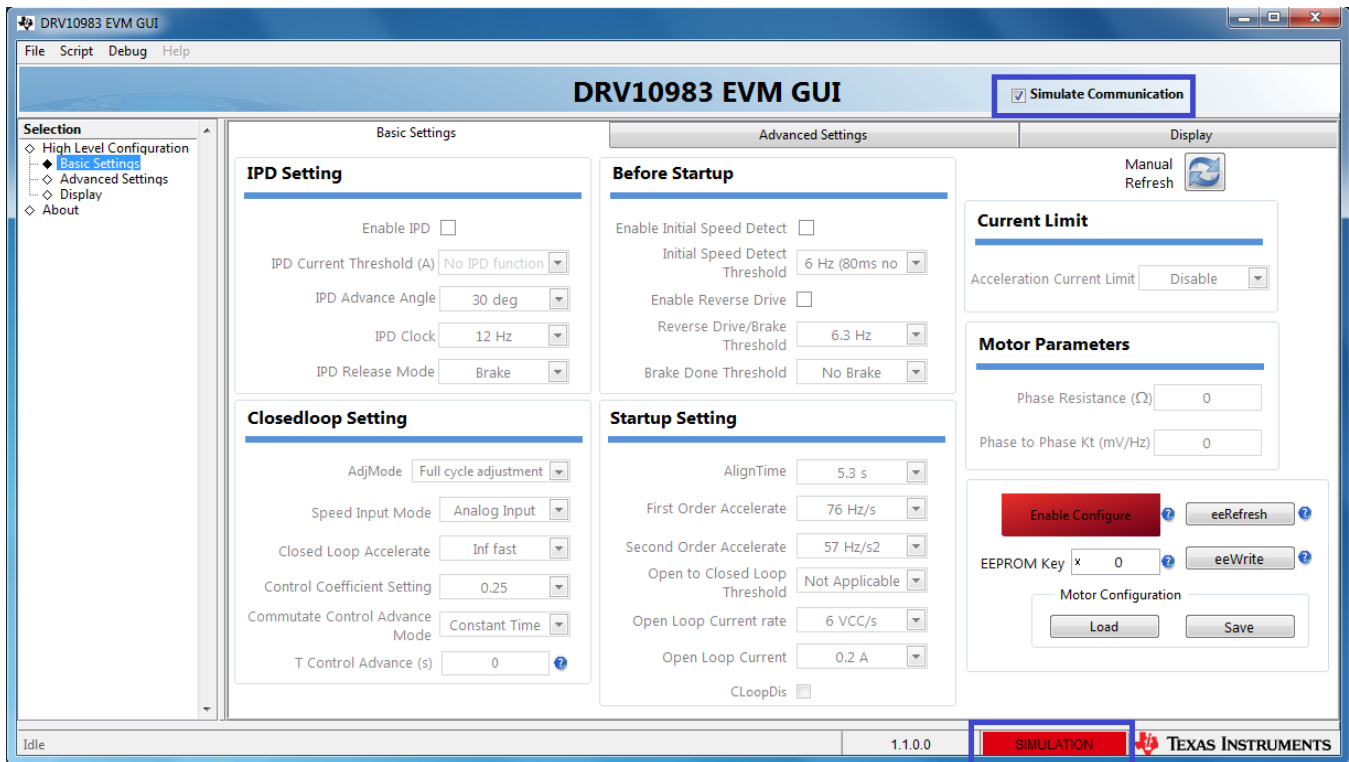

Figure 6. GUI in Simulation Mode
- If Simulate Communication was enabled previously, the following GUI screen image would appear as shown in Figure 6. Uncheck the Simulate Communication box to go to next step. Otherwise, the GUI screen image shown in Step 8 will appear directly, after Step 6.